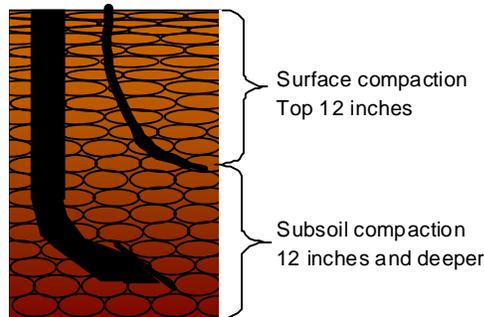

**Figure 2. Compaction of the soil surface and subsurface.**
*Surface vs. subsoil compaction.* Surface compaction occurs within the top 8 to 12 inches of soil (Figure 2) due to contact pressure to the soil surface by truck and heavy machinery traffic during construction. Tests have shown that the first pass of a wheel on loose, tilled soil, will cause 80 to 90 % of the total compaction experienced during construction.
Subsoil (deep) compaction is caused by total load as well as contact pressure. Axle loads above 10 tons, carried on high pressure tires over wet soils, can cause compaction below the root zone (1 foot); loads of 20 tons (heavy construction equipment and cement trucks) can compact wet soils as deep as 2 feet (Figure 2).